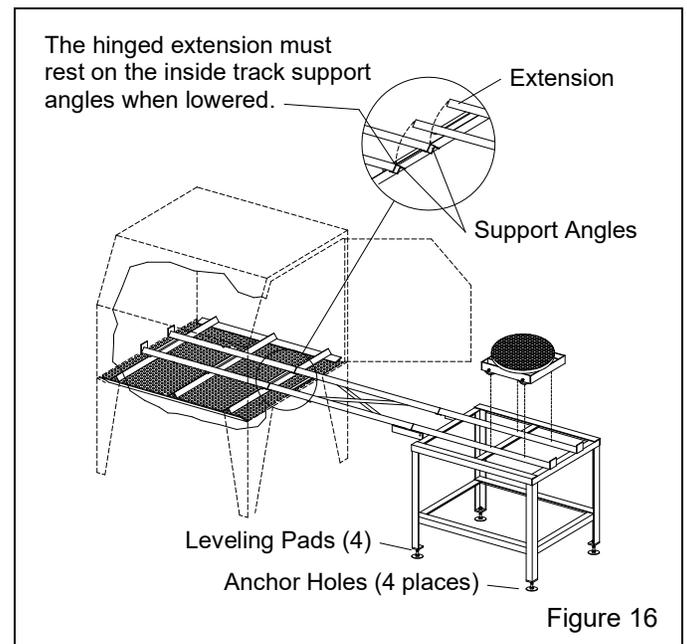

Figure 16
3.5.3 Position the track support table and extension, as shown in Figure 16. When the hinged extension is lowered, the extension tracks must rest on the angled locating supports welded to the bottom of the inside tracks, and butt against the inside tracks.